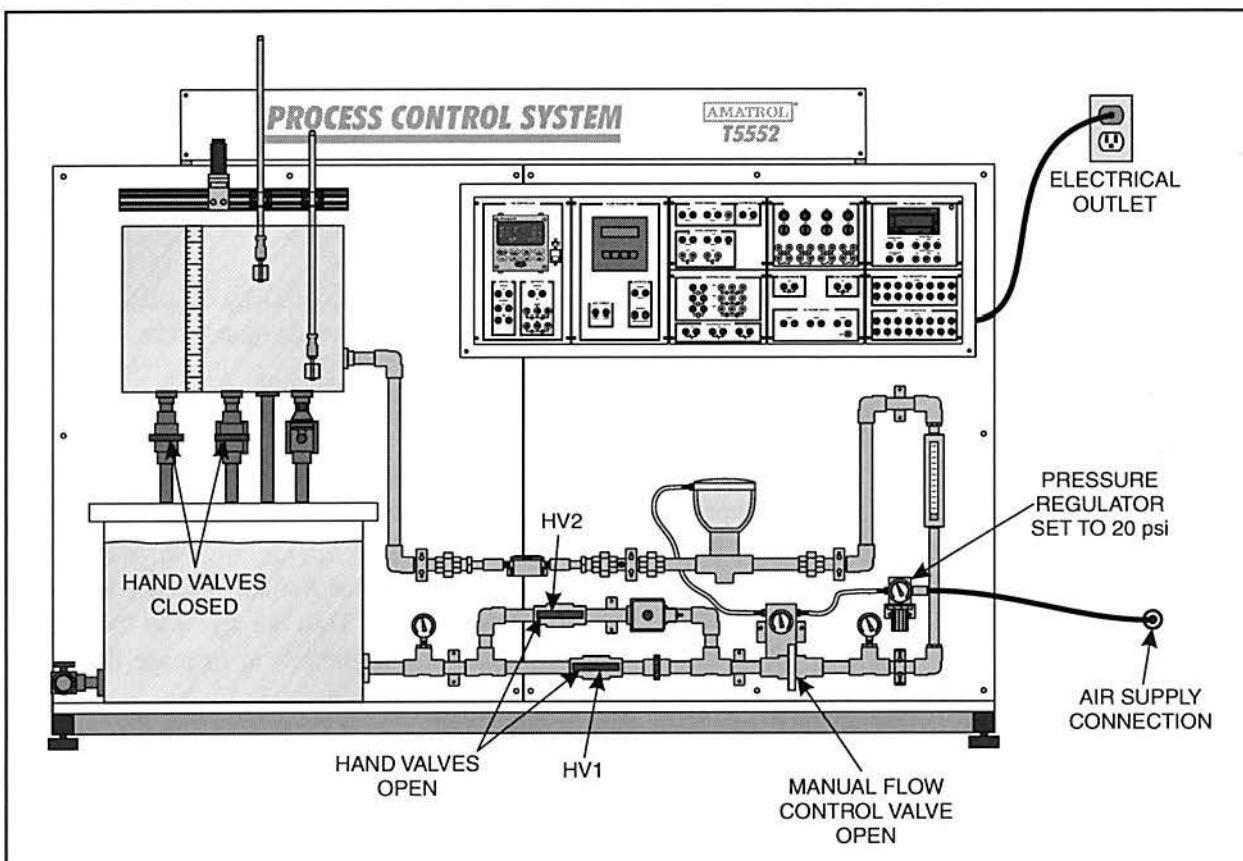

Figure 22. T5552 Set Up
- 2. Perform the following substeps to set up the T5552, as shown in figure 22.